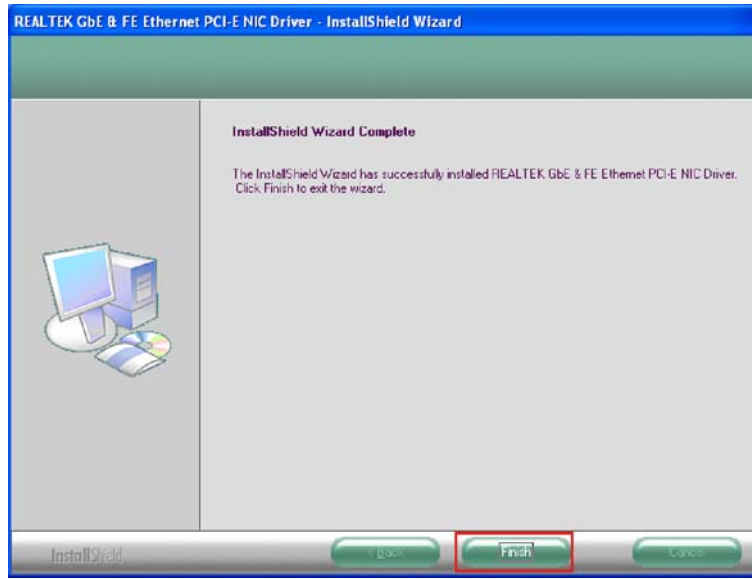

Figure 7-19: LAN Driver Installation Complete
Step 44: When the driver installation is complete, the screen in Figure 7-19 appears.
Step 45: Click **FINISH** to exit the InstallShield Wizard (Figure 7-19).